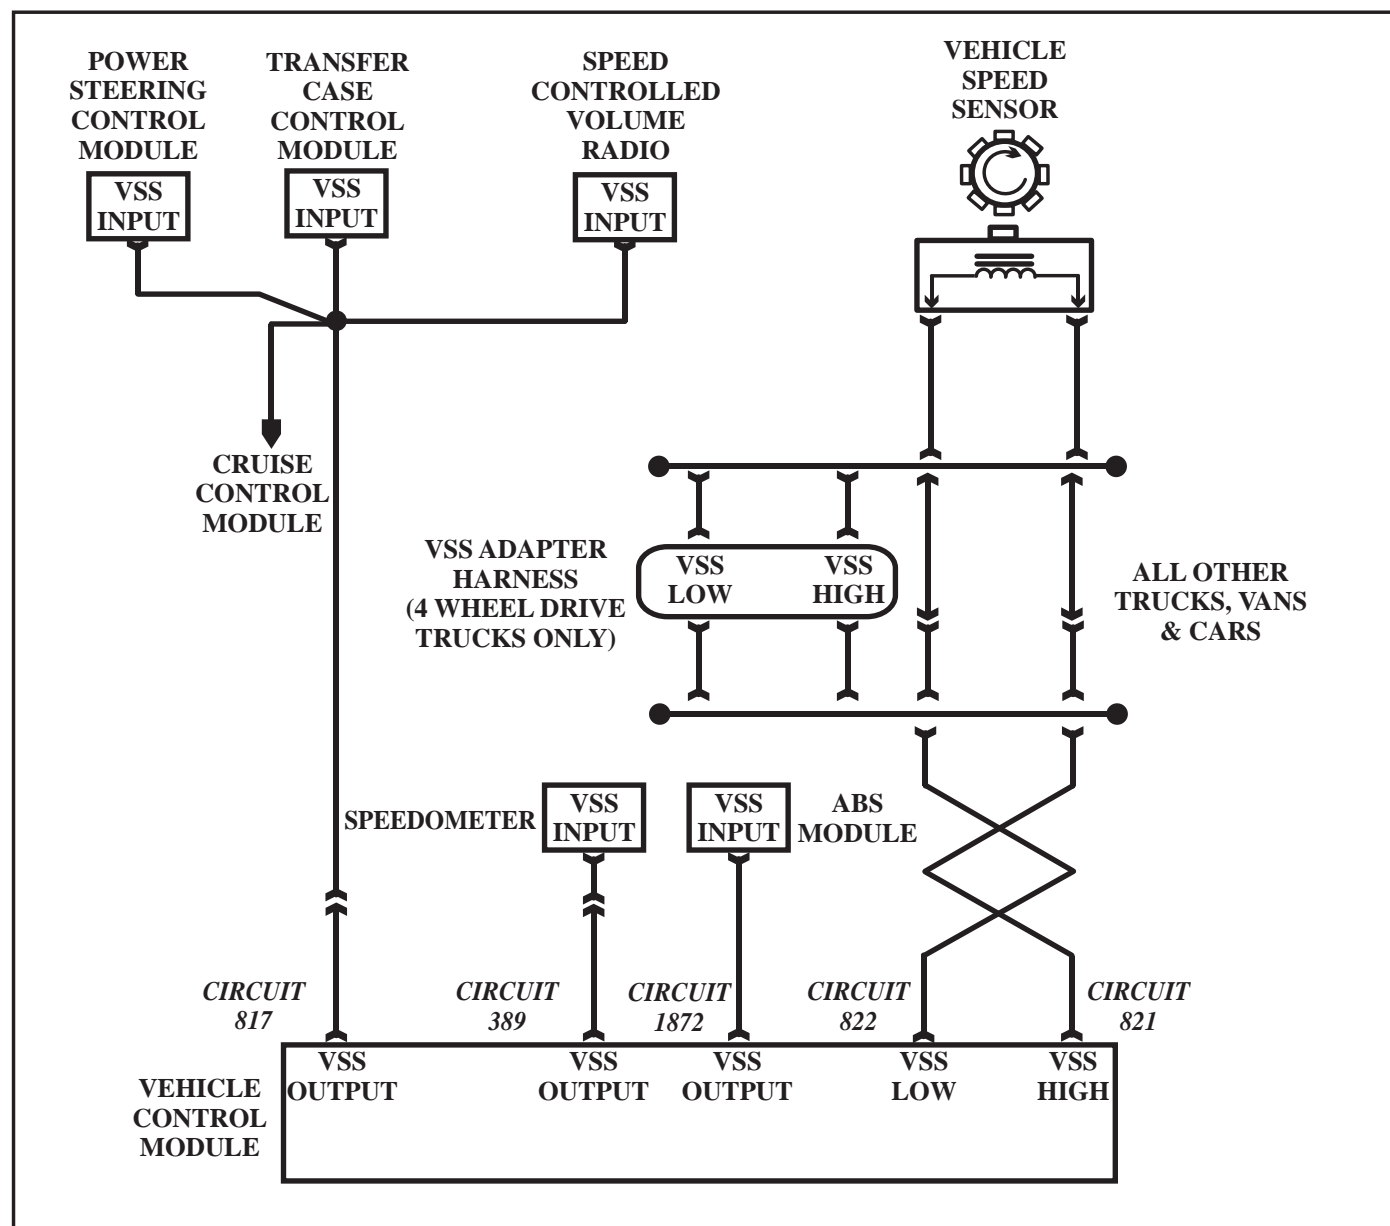

Figure 55
- A faulty Vehicle Speed Sensor, (Refer to Figure 55).
- A faulty VSS connector or circuits 821 and 822, (Refer to Figure 55).
- A faulty Vehicle Control Module, (Refer to Figure 55).